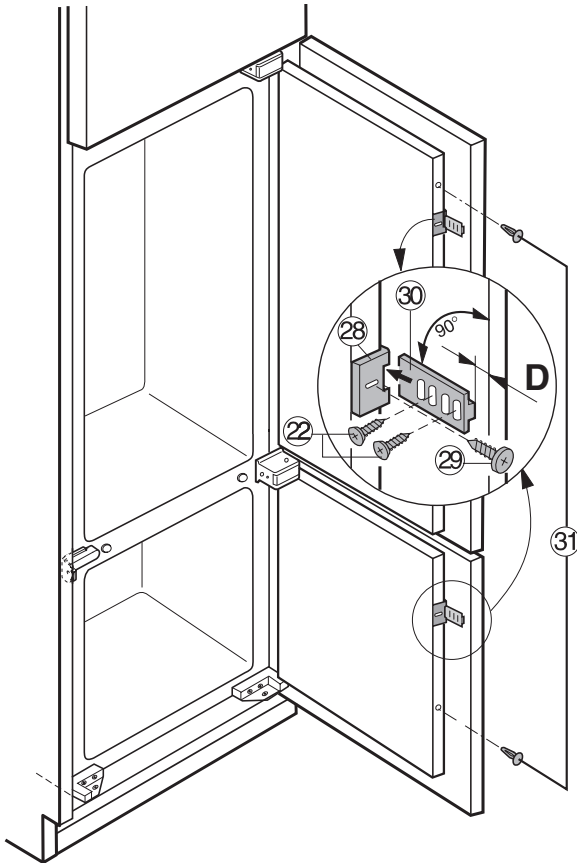
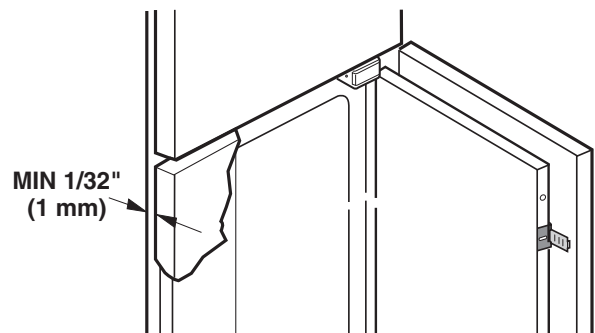

Figure 25
Figure 26
Attaching the Kitchen Cabinet Doors - Figures 25, 26
1. Attach at least one connecting element (Fig. 25, 28) to each appliance door using the screws (Fig. 25, 29) provided. Some large doors may need two connecting elements (Fig. 25, 28) and connecting rails (Fig. 25, 30).
- a) Use the pre-drilled hole(s) in each appliance door to attach the connecting element(s) (Fig. 25, 28) to the door of the appliance.
- b) Make sure the connecting elements (Fig. 25, 28) and connecting rails (Fig. 25, 30) do not interfere with the kitchen cabinet door handles.
- a) Slide one connecting rail (Fig. 25, 30) into each connecting element (Fig. 25, 28).
- b) Attach the connecting rails (Fig. 25, 30) to the kitchen cabinet doors using the screws (Fig. 25, 22) provided.
- i) Make sure the front edge of each connecting rail is recessed (dimension "D" in Figure 25) from the edge of the kitchen cabinet door.
- ii) Make sure the connecting rails (Fig. 25, 30) are parallel to the bottom edge of the kitchen cabinet doors.
3. Adjust the connecting elements (Fig. 25, 28) so there is a 1/32 in. (1 mm) gap (Figure 26) between the door of the kitchen cabinet and the handle side of the kitchen cabinet wall when the door is closed.
4. Use an awl to open the remaining holes on the front edge of each appliance door. Insert plugs (Fig. 25, 31) into each hole.